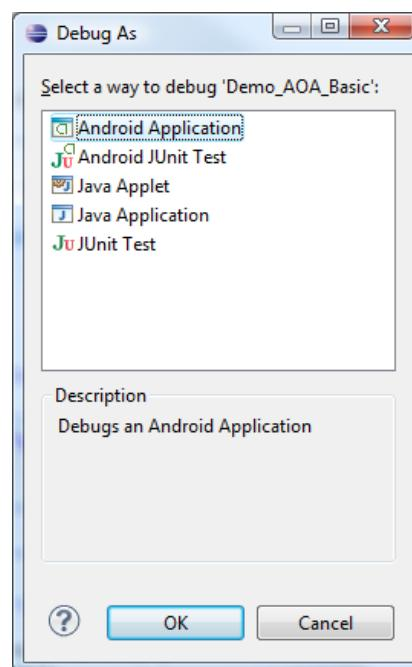

Figure 29 - Debugging type
3) Select Android Application in the dialog that appears. See Figure 29